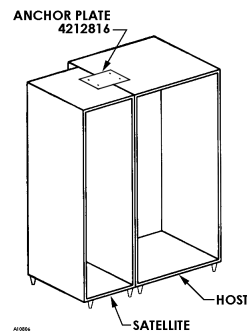

Figure 4.12. Anchor Plate Installation
2. Anchor the Satellite Food Vendor to the host vendor. See **Figure 4.12**.